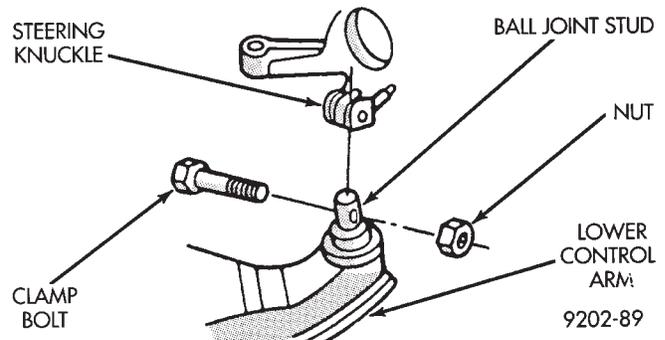

Fig. 1 Control Arm To Steering Knuckle Attachment
- (1) Raise vehicle. See Hoisting in Lubrication, Group 0 of this service manual.
- (2) Remove the ball joint stud to steering knuckle clamp nut and bolt (Fig. 1).
- (4) Separate the steering knuckle from the ball joint stud (Fig. 1).
(2) Install ball joint stud into steering knuckle and install clamp bolt (Fig. 1). Tighten clamp bolt to 145 N•m (105 ft. lbs.).
(3) Position sway bar and bushings against the lower control arms. Install sway bar to control arm retainers. Install retainer bolts and tighten to 70 N•m (50 ft. lbs.).
(4) Lower vehicle so the suspension is supporting vehicles weight (control arm at design height). Tighten the lower control arm to crossmember attaching bolts to 169 N•m (125 ft. lbs.) torque.